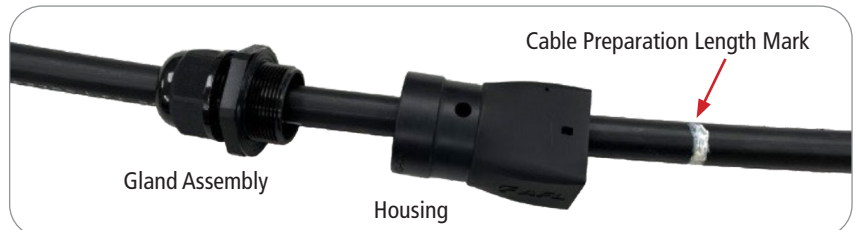

Figure 1
- B. Slide the gland assembly and then the housing on the cable past the specified preparation length mark (**Figure 1**).